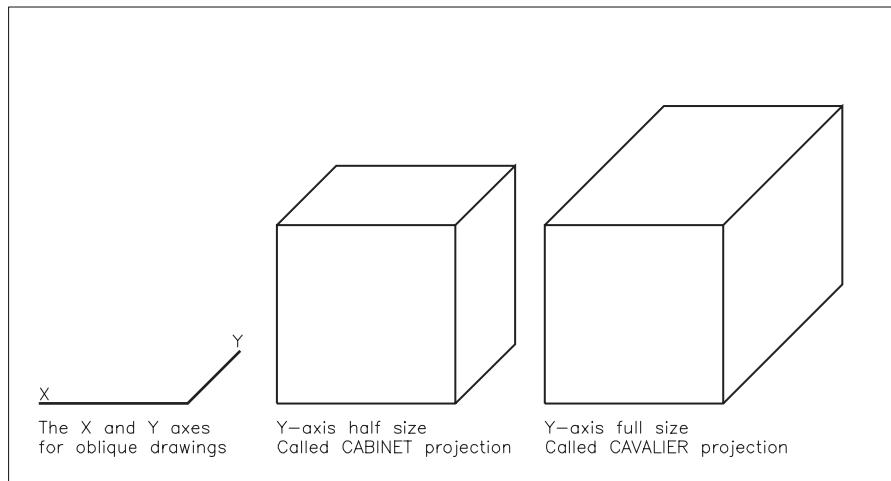

Figure 32.4 Oblique pictorial concepts.
- 3 Figure 32.4 displays the basic oblique concepts.